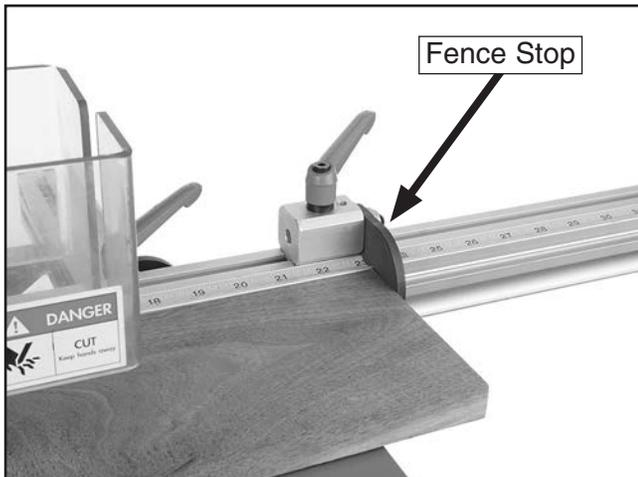

Figure 24. Longitudinal fence stop.
4. Use the longitudinal fence stops (**Figure 24**) to preserve the starting point when drilling workpieces that are the same length.